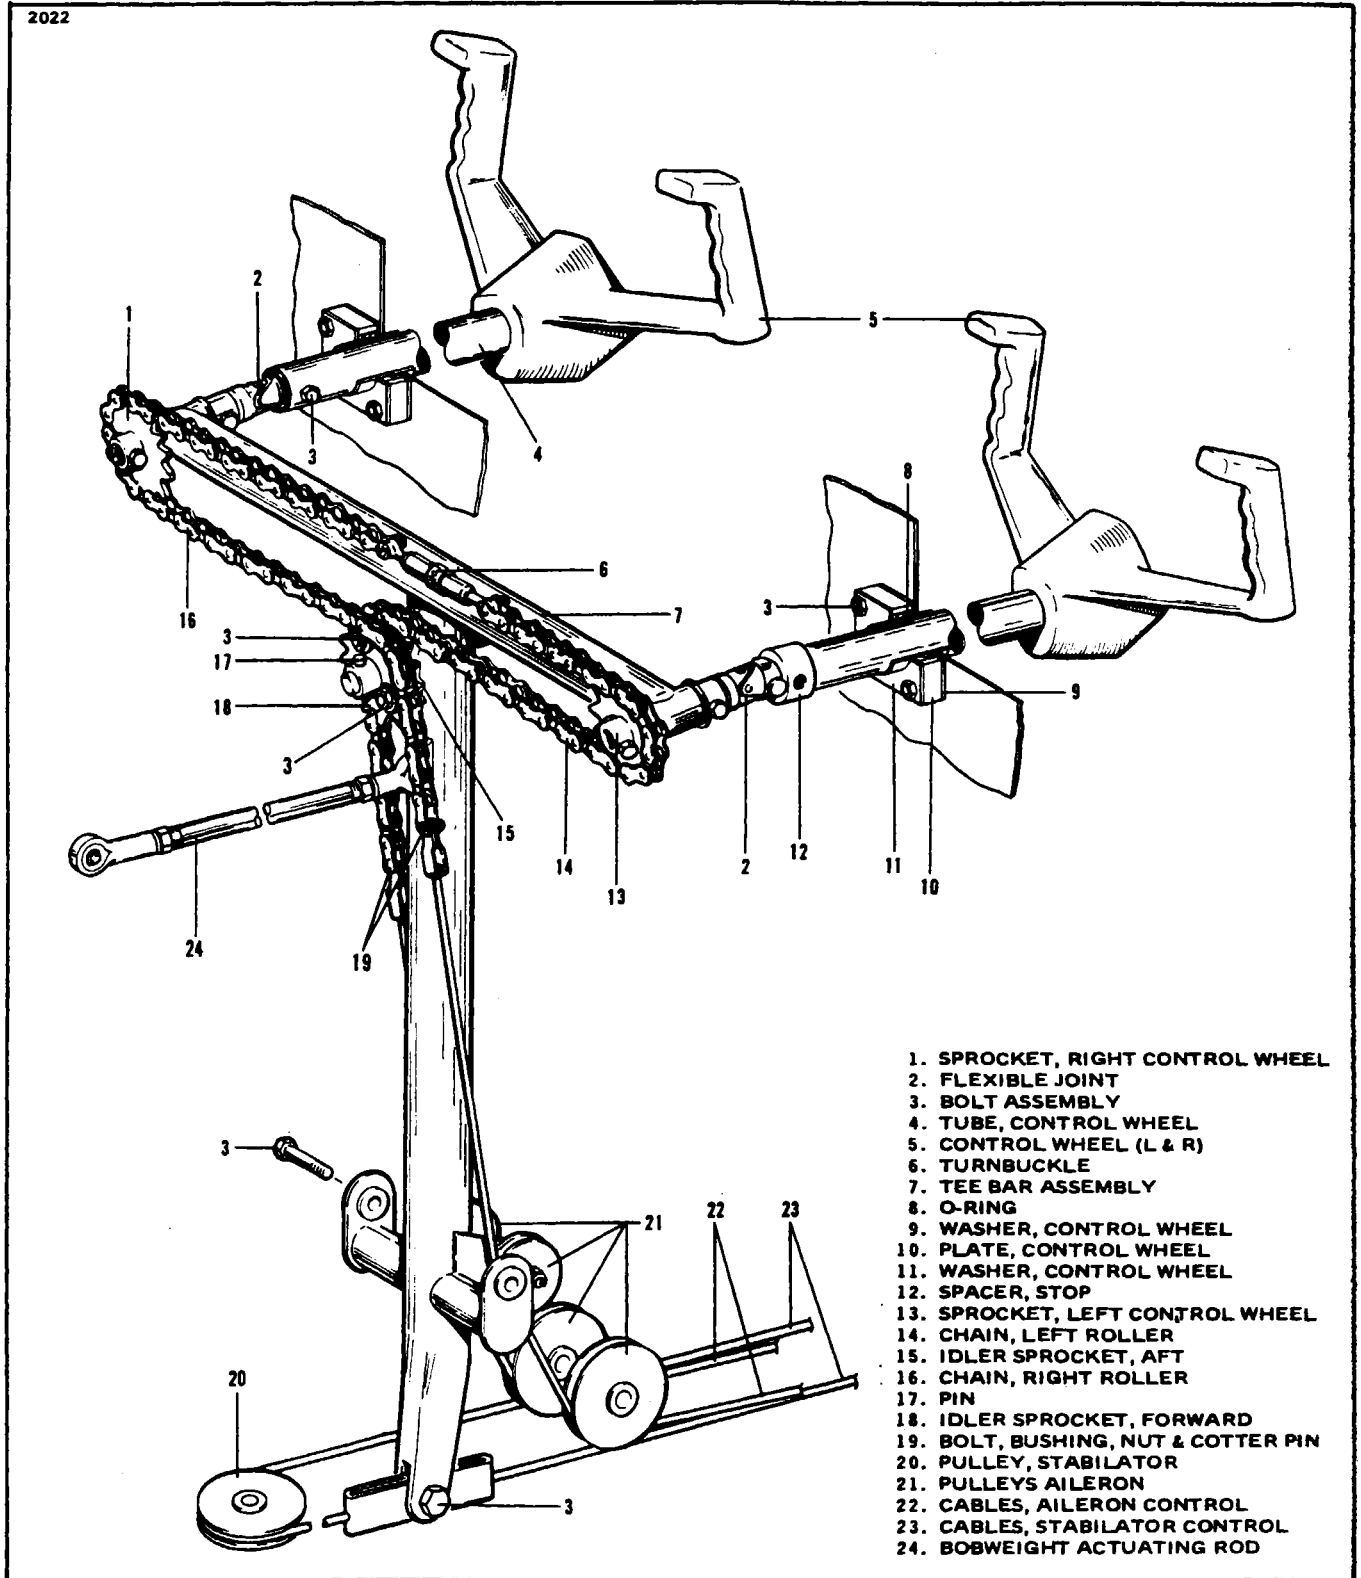

Figure 5-1. Control Column Assembly
5-4. REMOVAL OF CONTROL COLUMN ASSEMBLY. (Refer to Figure 5-1.)
5-5. INSTALLATION OF CONTROL COLUMN ASSEMBLY. (Refer to Figure 5-1.)
4. Position cables and install the cable pulleys that attach to the lower section of the tee bar assembly. Secure with bolt, washer and nut. (Refer to Figure 5-1.)
5. Place the cable around the pulley (11) that is located in the floor opening just aft of the main spar and install cotter pin cable guards.
6. If the primary control cable in the wing is installed, connect the control cable ends at the turnbuckle (6) located in the floor opening aft of the main spar.